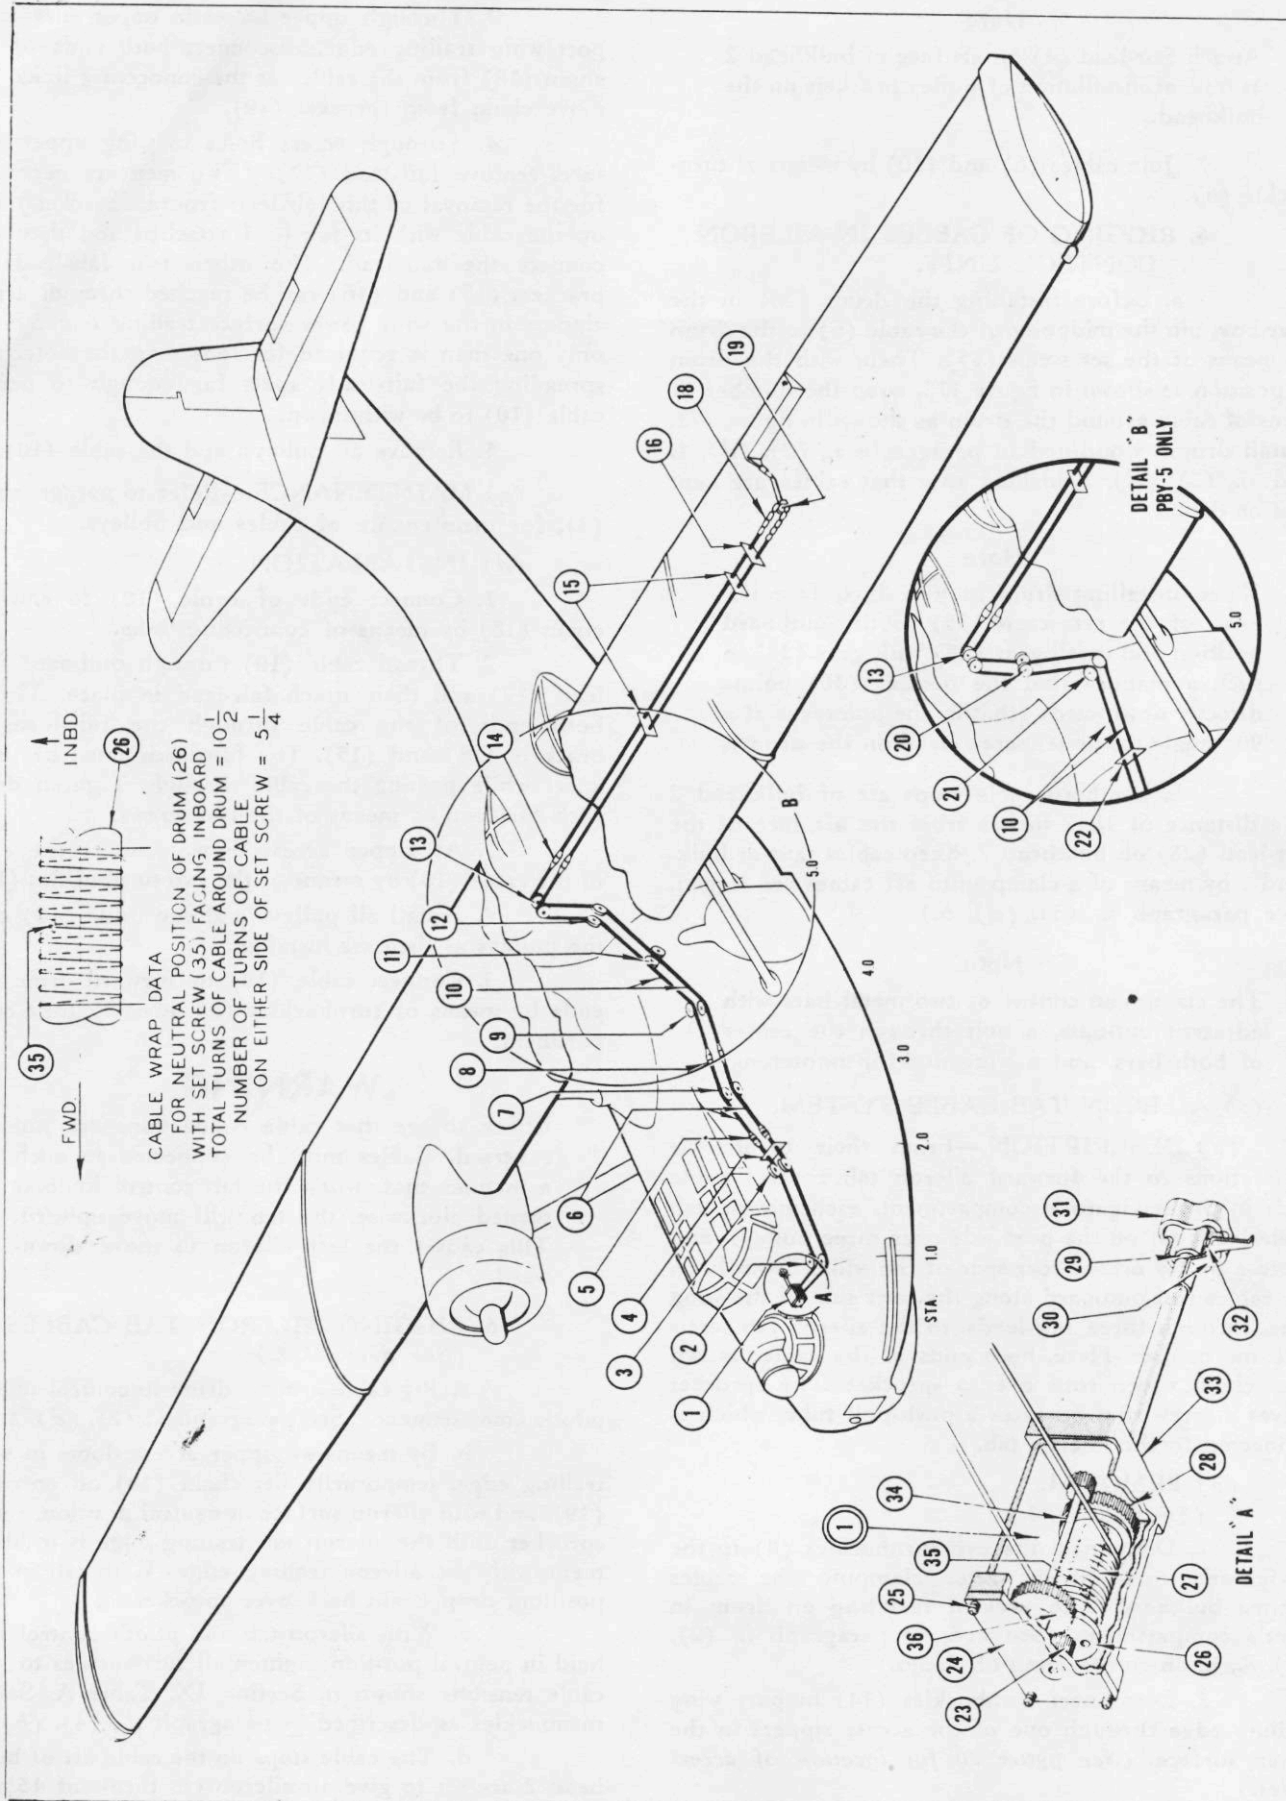

Figure 172—Aileron Tab Control System
(a) DESCRIPTION. (See figure 172.)—The aileron tab control unit is located under the instrument panel on the pilot's side. It consists of a drum mounted on a shaft, which rotates in bearings mounted in a gear box attached to the instrument panel beam. An indicator pointer rides on the shaft, and is actuated by a
(See figure 172.)
1. Assemble aileron control unit by reversing disassembly procedure outlined in paragraph i., (2), (b), 6.
2. Before placing drum in gear box, wrap cable (6) around drum (26) and then clamp to drum with set screw (35). For rigging of cable on drum, see paragraph i., (2), (d), 8.
3. Place control unit (1) in position on angles and slide it aft to allow the handle shaft (29) to pass through aft bearing support.
4. Attach control unit (1) to angles by means of the four screws.
5. Bend end of pointer (30) to position shown in figure 172.
6. Pass cables (6) outboard around pulleys (20) and (3) as they are installed and then run cable through bulkhead 2.
7. Join cables (6) and (10) by means of turnbuckle (8).
a. Before installing the drum (26) in the gear box, pin the midpoint of the cable (6) to the drum by means of the set screw (35). Then, with the drum in position as shown in figure 172, wrap the number of turns of cable around the drum as shown in figure 172. Install drum as outlined in paragraphs *i.*, (2), (d), 1. and *i.*, (2), (d), 2, making sure that cables are kept taut on drum.